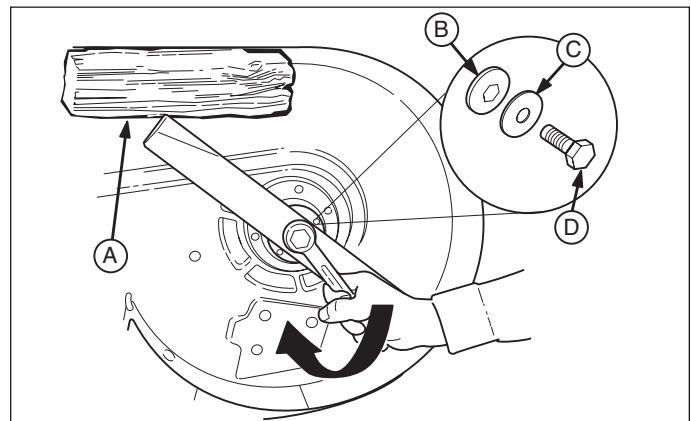

Figure 15. Blade Installation
3. Remove the capscrew (D, Figure 15), spring washer (C), hex washer (B), and blade.
6. Reinstall the blade (Figure 15) with the tabs pointing up toward the mower deck as shown.
7. Reinstall the hex washer (B, Figure 15), spring washer (C) and capscrew (D). Use a wooden block (A) to prevent blade rotation while tightening the capscrew (D) to 61-75 N.m (45-55 ft. lbs.).